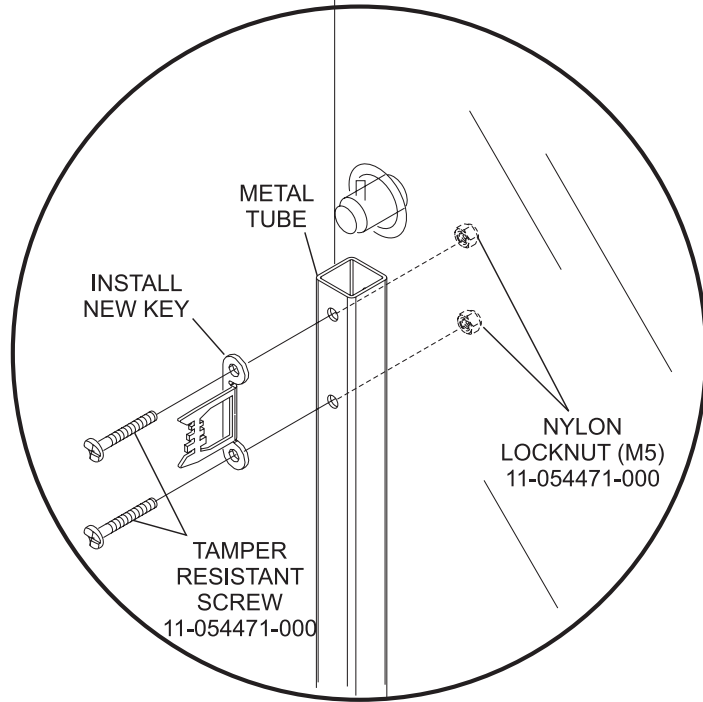

Figure 2
2. Install new key with tamper resistant screws (11-054470-000). Refer to *Figure 2*.